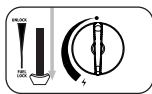

Fig. 3
4. Press the cartridge lever (1) down (fig. 3) and close the cartridge cover.
5. If you hear a hissing noise, the cartridge is not seated correctly. Do not try to turn on the appliance, but move the lever (6) to the "UNLOCK" position and repeat steps 1 to 4.